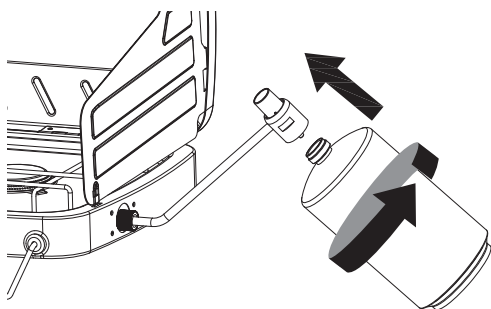

Figure 3 (Disconnect LP Gas Tank)
2. Rotate LP gas tank counterclockwise until it is detached (Figure 3).